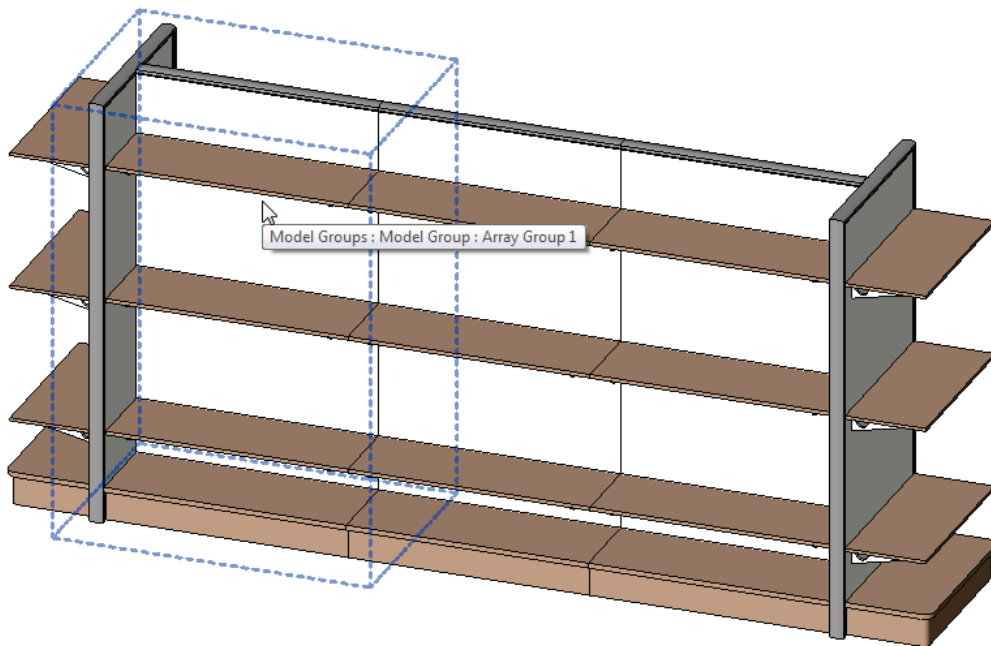

Figure 16—Nested Families simplify the creation of parametric arrays
- **Nesting helps with rotation, mirroring and arrays**—If you need to **rotate, move or mirror** an element parametrically or wish to make a parametric array in your family, nesting is almost a must. It is not impossible to achieve these behaviors without nesting, but it can be much more challenging (see Figure 16).